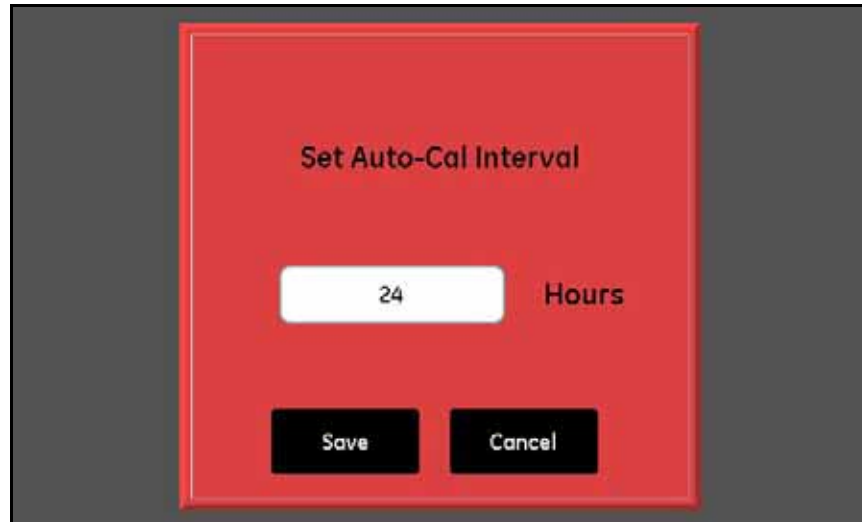

Figure 52: Set Auto-Cal Interval Screen
1. From the *Probe Configuration* screen, tap **Auto-Cal Setup** button to access the *Set Auto-Cal Interval* screen for the desired probe (see *Figure 52* below).